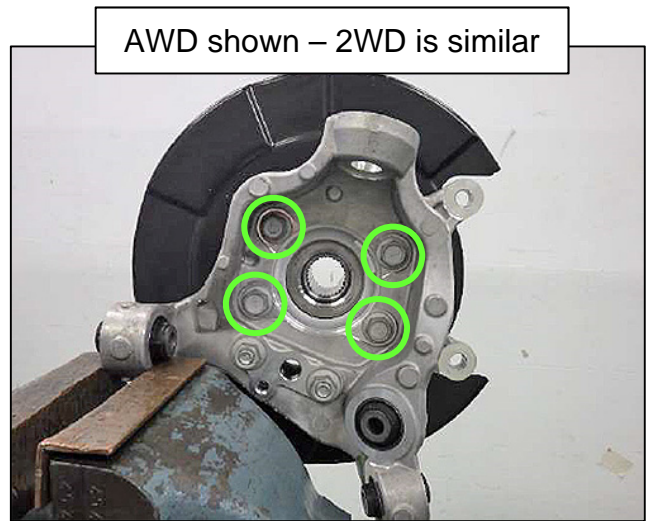

Figure 19
- 25. Remove the wheel hub bolts (Figure 19) from the rear knuckle, and then separate the wheel hub from the rear knuckle.